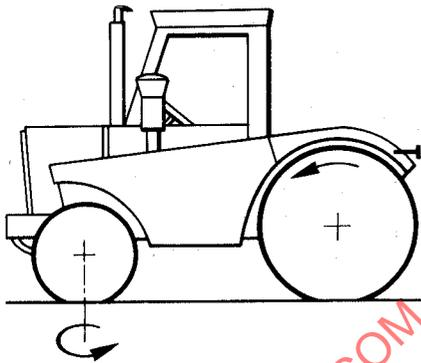

Figure 3 — Wheel tractor — Four wheel, front wheel steer, rear wheel drive
5.1.3.1 Rear axle (rear wheels) drive (see figure 3).
5.1.4.1 Front wheel steer (see figure 3).